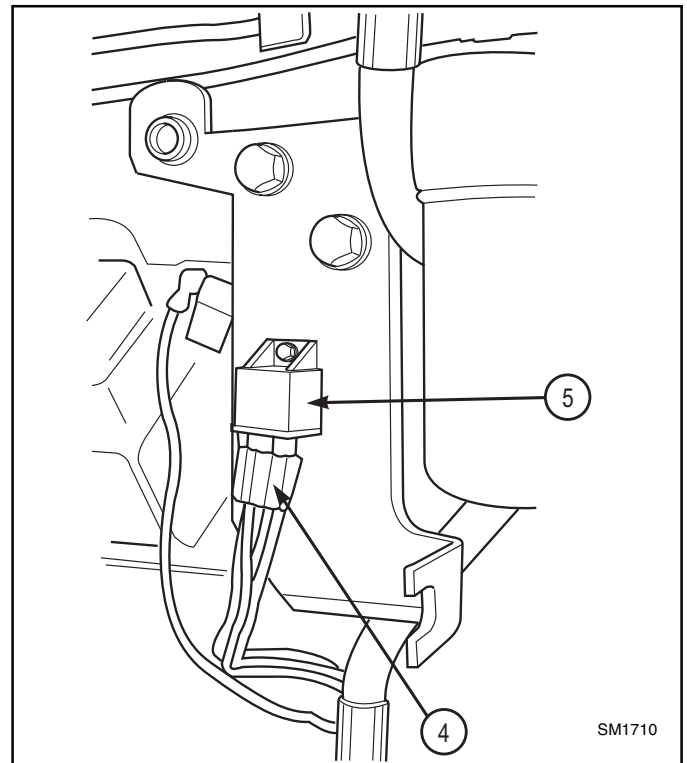

Figure 20
- Connect electrical connector (4) to relay (5). (Figure 20).